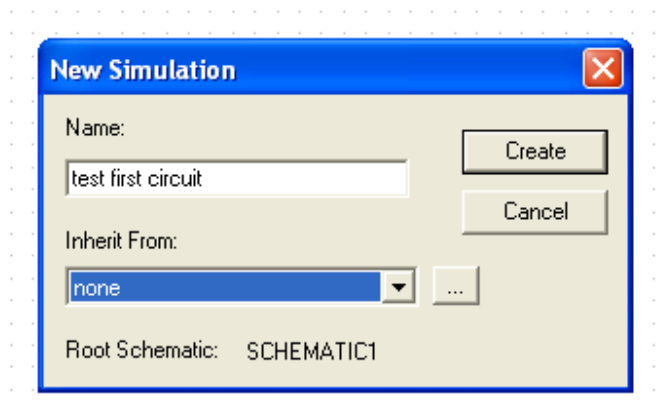
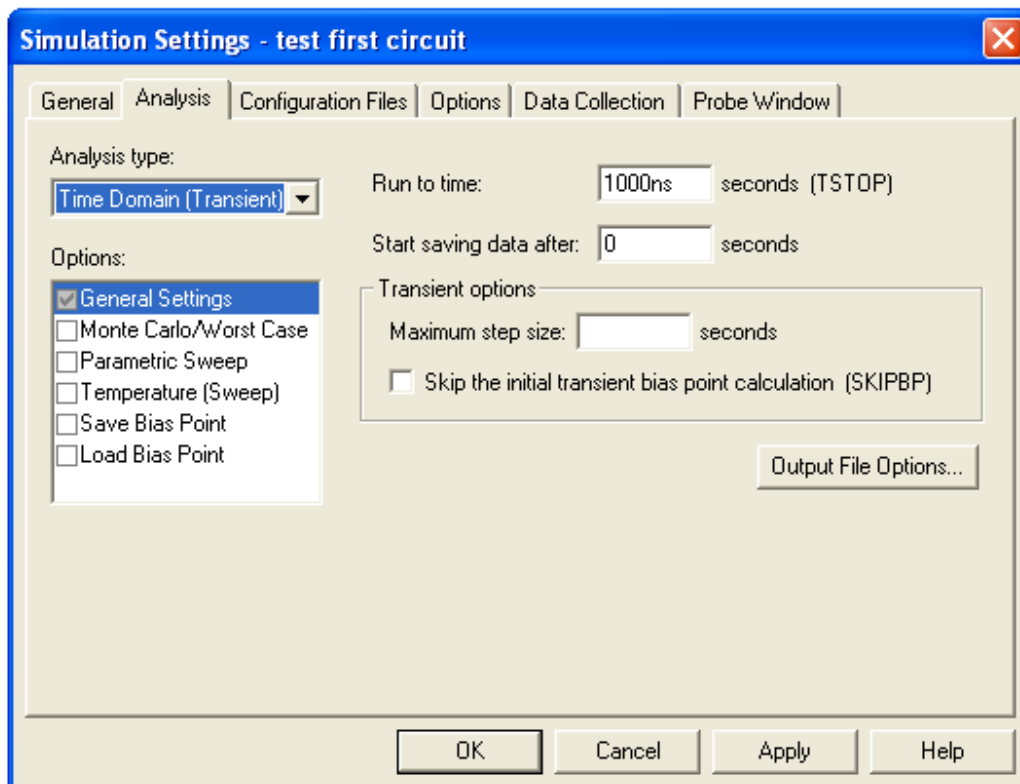

Figure 7 – Naming Simulation
Figure 8 – Simulation Settings
- a. After connecting the circuit parts, go to PSpice → New Simulation Profile. (see Figure 7). Name your simulation profile and click on Create, then the “Simulation Settings” (see Figure 8) dialog will appear.